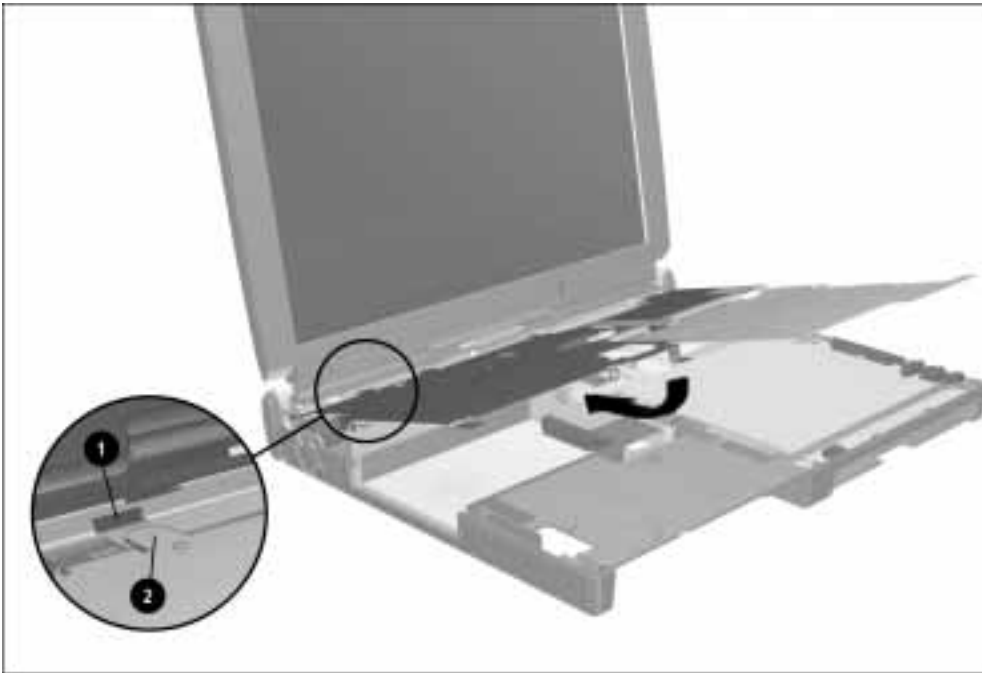

Figure 5-23. *Installing the EMI shield*
1. Replace the EMI shield, making sure the four tabs on the back of the shield **1** fit into the appropriate slots **2** on the U-channel (Figure 5-23). Install the six screws that secure the shield to the base assembly.